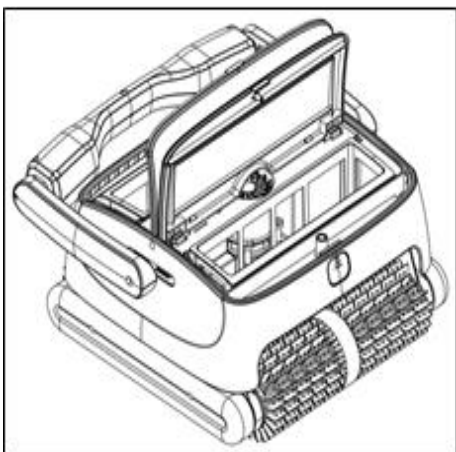

Figure 3
- Open the top cover (see Figure 3)